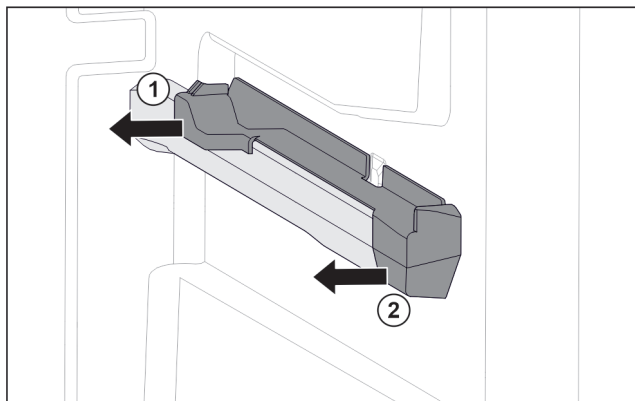

Fig. 114 Attachment on the right moulded rib
- Grab attachment at the back from below. Fig. 114 (1)
- Pull off attachment at the back sideways. Fig. 114 (1)
- Pull off attachment at the front sideways. Fig. 114 (2)